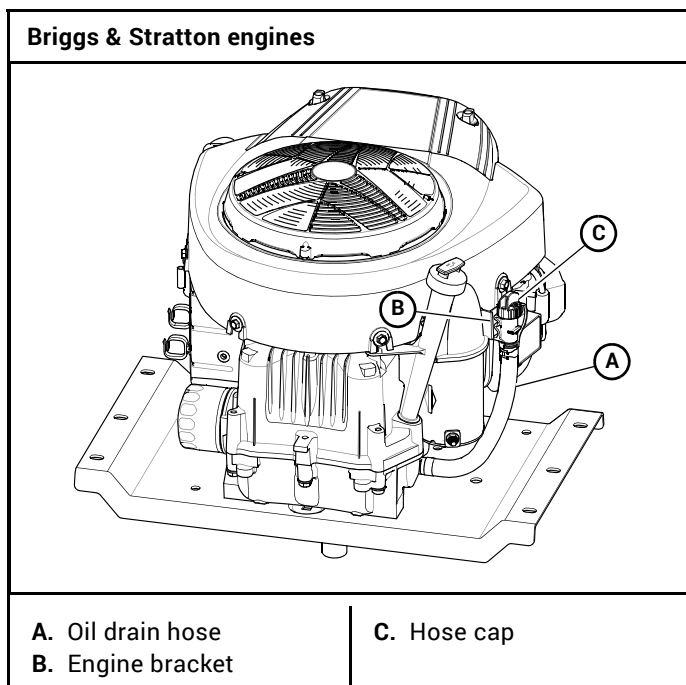

Figure 4-11
1. Locate the oil drain hose on the engine. Figure 4-11
2. Un-clip the end of the oil drain hose from the engine bracket and route it towards the rear of the mower frame. Figure 4-11
4. Twist the cap on the end of the hose and pull the cap open to allow the oil to drain. Allow 10 minutes for engine oil to adequately drain. Figure 4-11